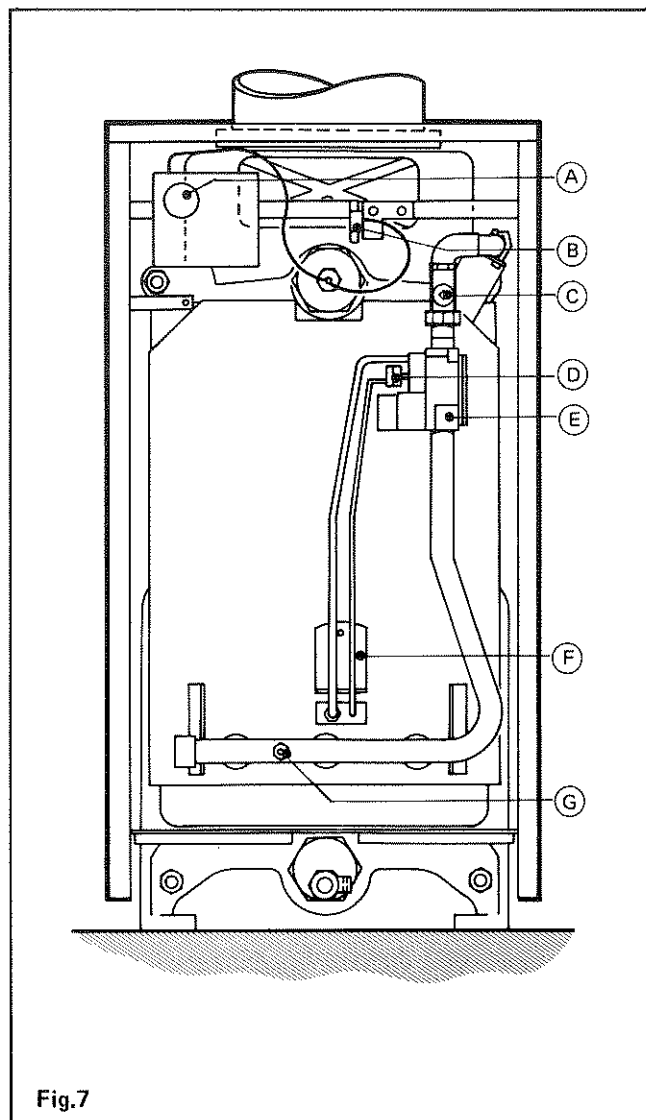

Fig.7
## COMMISSIONING AND INITIAL LIGHTING (Fig.7)
1. Extinguish the main burner and pilot burner by turning off the main gas inlet cock (Fig.7) (C).
3. Open the lighting door (Fig.7) (F) and hold a lighted taper adjacent to the pilot burner and then open the main gas inlet cock. Neither the pilot burner nor the main burner should ignite.